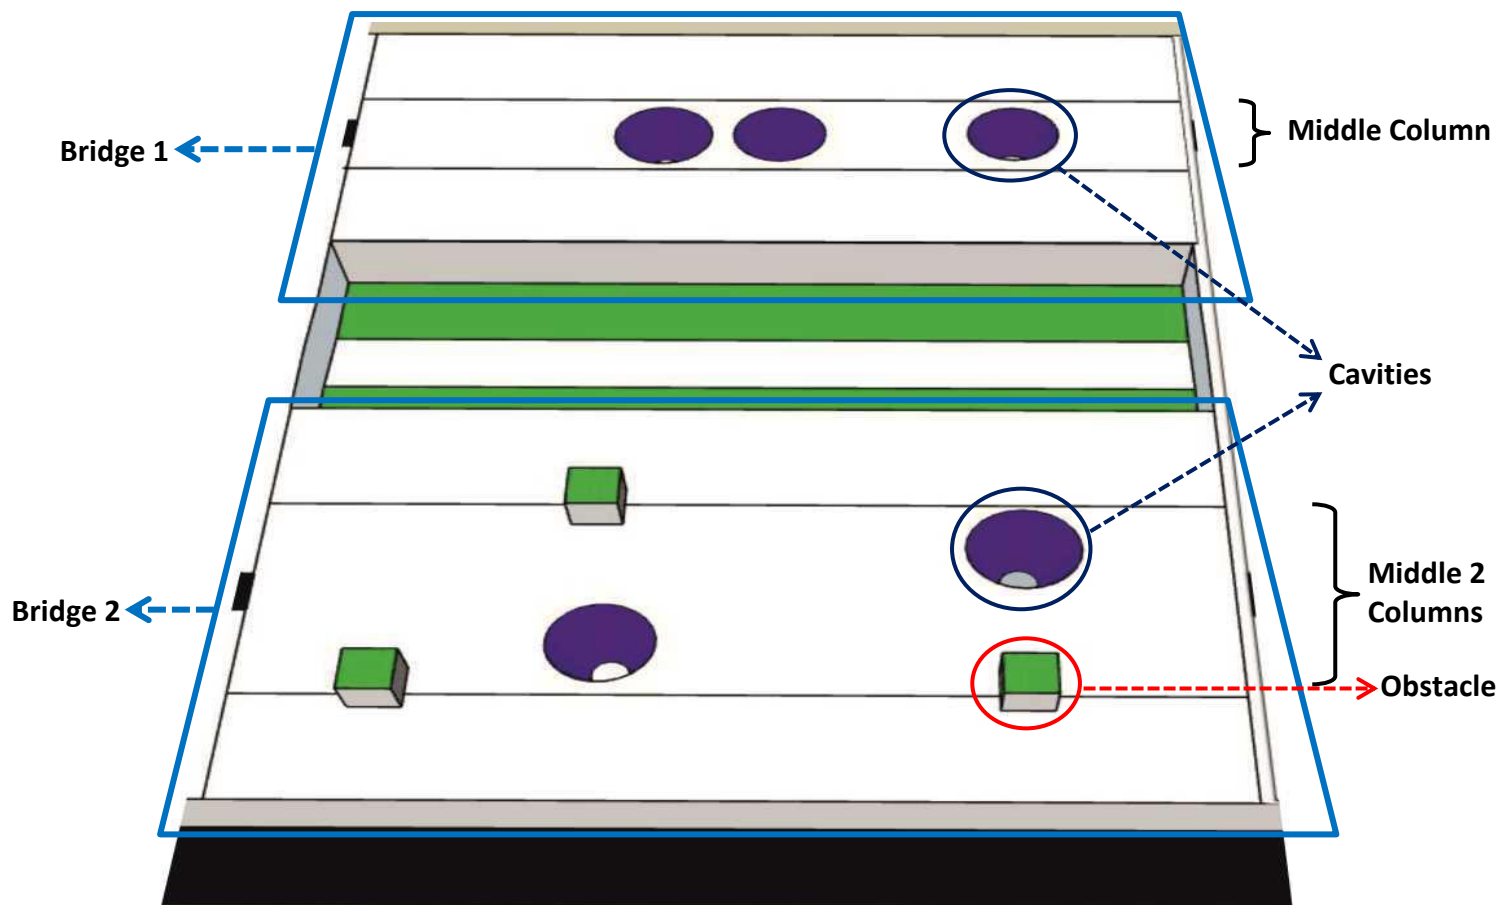

Figure 2: Bridge Region
2. **Bridge Region:** With reference to Figure 2, this region comprises of